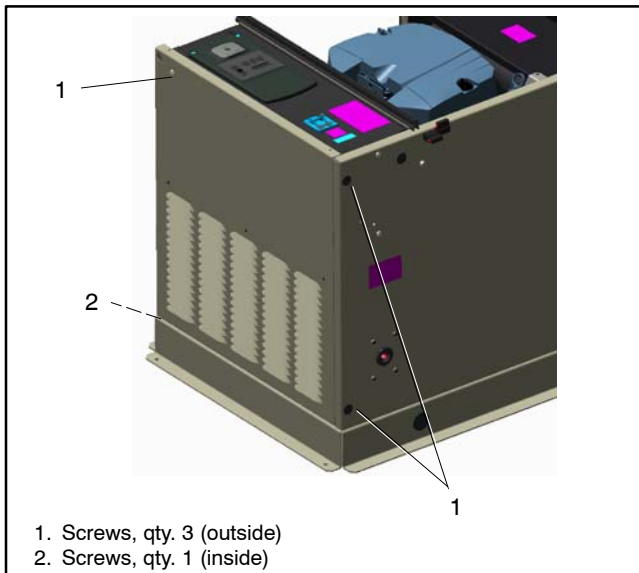

Figure 7-13 Front Panel Mounting Screw Locations
- Remove the front panel. See Figure 7-13.